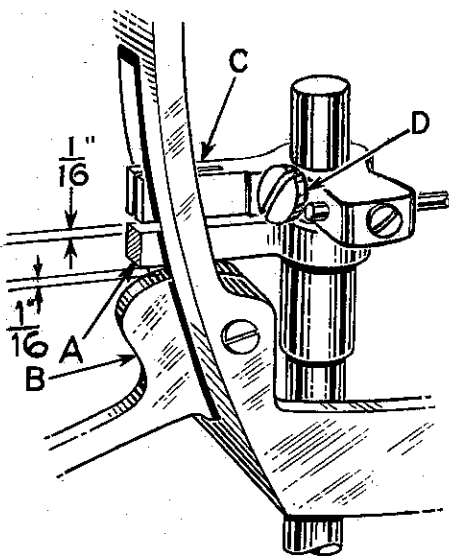

Fig. 8
To make this adjustment, loosen screw (D, Fig. 8), and with the hand lifter (B) in its up position, move the presser bar to secure the desired height of foot and re-tighten screw (D). When the above adjustment is made, care must be taken that the needles are centered in the presser foot needle slot.
The presser bar connection (A, Fig. 8) should be set so that it is 1/16 inch from the hand lifter (B) at all times.
When locating the presser bar guide (C, Fig. 8), the presser foot must rest directly against the throat plate with the feed dog in its lowest position.